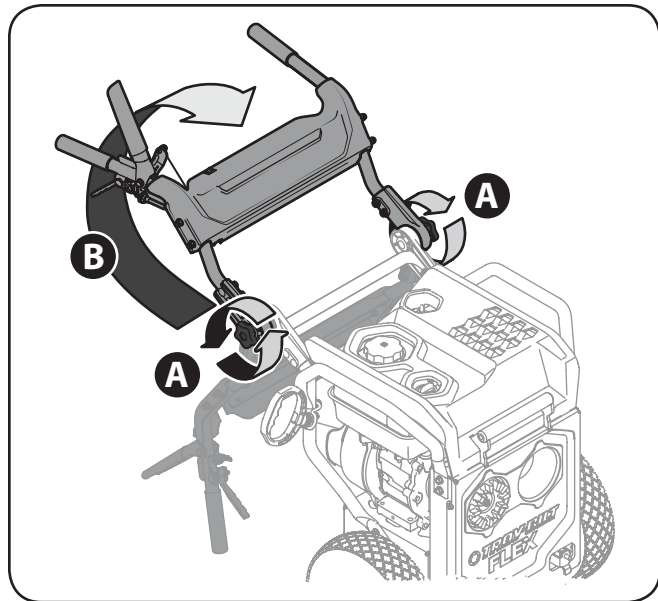

Figure 3-2
2. Loosen the star knobs (A) as shown in Figure 3-2, and pivot the upper handle assembly upwards (B) until it reaches the optimal operating position based on the operator's preference.